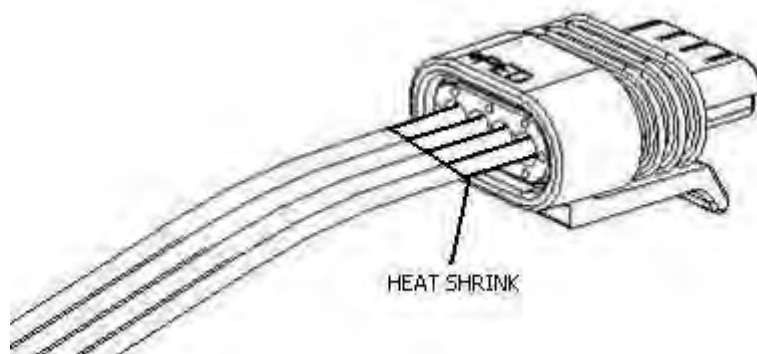

Figure 67
- o. If the cable seal pulls out of the connector body during terminal seating, carefully push the seal back into the connector assembly as shown in Figure 67.